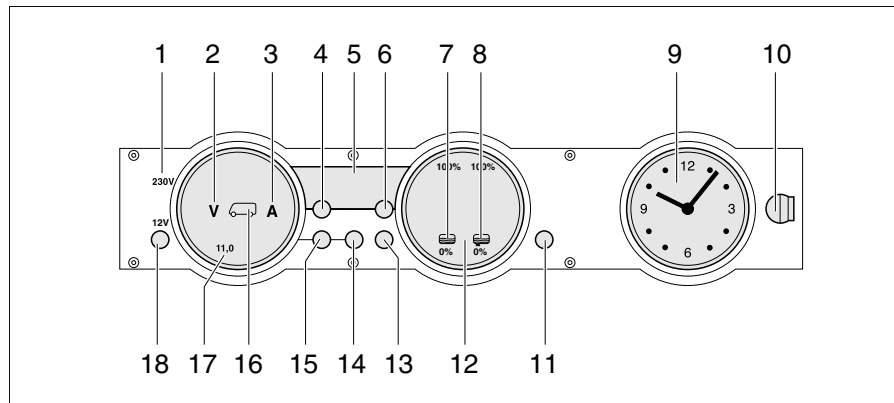

Fig. 259 Panel MP 20-T
The 230 V indicator lamp (Fig. 259,1) lights up whenever line voltage is available at the transformer/rectifier input.
The 12 V main switch (Fig. 259,18) switches the panel and the 12 V power supply of the living area on and off.
- Briefly press the "12 V" button (Fig. 259,18). The 12 V living area power supply is switched on. The "12 V" indicator lights up.
- ▷ If, after switching on, the "11.0" LED of the volt indicator and the "V" volt symbol (Fig. 259,2) in the batteries gauge (Fig. 259,17) flash, the voltage of the living area battery is too low. Charge battery.
- ▷ If, after switching on, the "12 V" indicator, the symbol for the living area battery (Fig. 259,16) and the "V" volt symbol (Fig. 259,2) flash three times, battery separation is activated. Deactivate battery separation.
- Briefly press the "12 V" button (Fig. 259,18). The 12 V living area power supply is switched off. The "12 V" indicator goes out.
- Press button for living area battery (Fig. 259,14) and hold it down for approx. 10 seconds. The "V" volt (Fig. 259,2) and "A" ampere (Fig. 259,3) symbols flash three times. The living area battery is disconnected from the 12 V power supply.
- Press the "12 V" button (Fig. 259,18) and hold it down for approx. 5 seconds. The "V" volt symbol (Fig. 259,2) flashes three times. The living area battery is connected to the 12 V power supply. The indicator lights up after approx. 2 seconds.
- Press button for living area battery "⏏" (Fig. 259,14). The "V" volt symbol (Fig. 259,2) lights up. Depending on whether the battery is being charged or discharged, the "A" ampere symbol lights up white or red respectively. The battery voltage and current of the living area battery are displayed using the LEDs in the gauge.
- Press button for starter battery "⏏" (Fig. 259,15). The "V" volt symbol (Fig. 259,2) lights up. The battery voltage of the starter battery is displayed using the LEDs in the gauge.
- Press the tanks button  (Fig. 259,13). The water tank  (Fig. 259,7) and waste water tank  (Fig. 259,8) symbols light up. The fill level of the water tank (left-hand scale) and the waste water tank (right-hand scale) are indicated using the LEDs in the gauge.
The "V" volt symbol (Fig. 259,2) and the "11.0" LED flash as soon as the battery voltage falls below 11 V (measured during operation) and there is the threat of a total discharge.
The water tank symbol  (Fig. 259,7) or waste water tank symbol  (Fig. 259,8) flashes when the water tank is empty or the waste water tank is full.